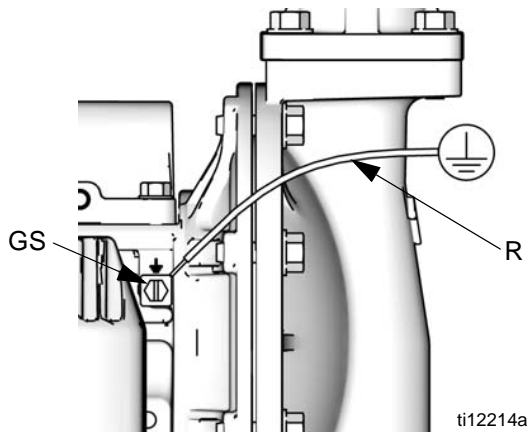

FIG. 1. Ground Screw and Wire
Pump: See FIG. 1. Loosen the grounding screw (GS). Insert one end of a 12 ga. minimum ground wire (R) behind the screw and tighten the screw securely. Connect the clamp end of the ground wire to a true earth ground. A ground wire and clamp, Part 238909, is available from Graco.